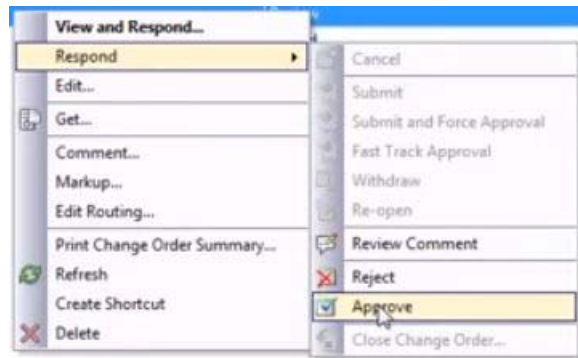

Figure 4-5, Menu Options –Respond
3. Right-click the ECO and select “Respond” from the options menu, shown in Figure 4-5. Menu Options –Respond